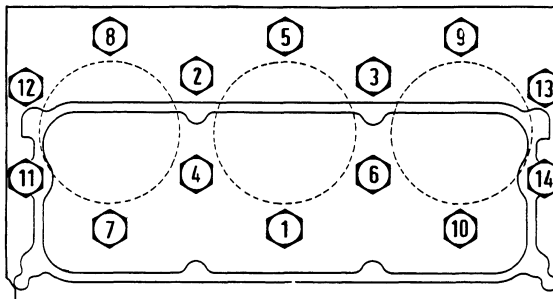

Fig. 13 - Cylinder head tightening diagram.
- Before final tightening (see fig. 13), make sure that exhaust manifold mating surfaces line up.
The specified tightening torque should be reached in at least three successive stages, adopting the sequence indicated in fig. 13.